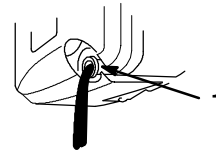

Figure 13
5. Tip the lawn mower onto its left side, allowing the oil to drain into an appropriate container (Fig. 13).